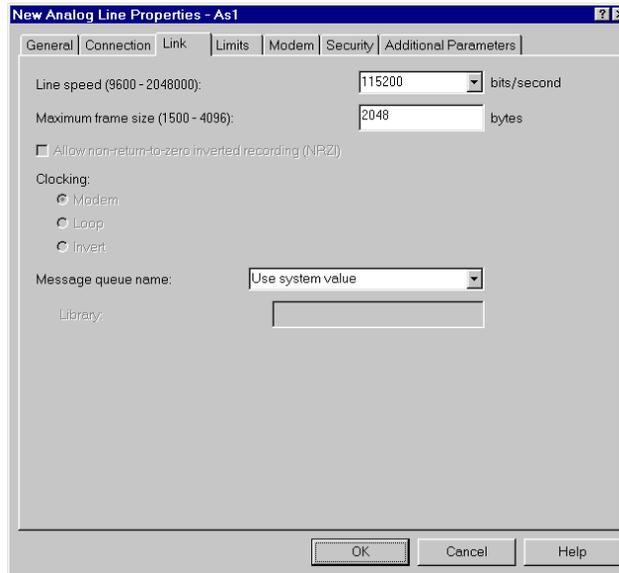

Figure 27. Properties: Link display
7. Click the **Link** tab (Figure 27).